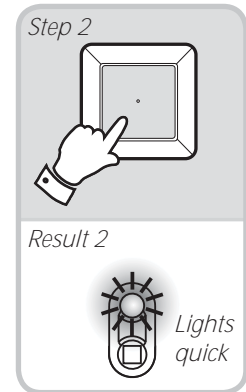

Fig. 19
- When the LED is permanently on, learning has been successful (see Fig. 19).